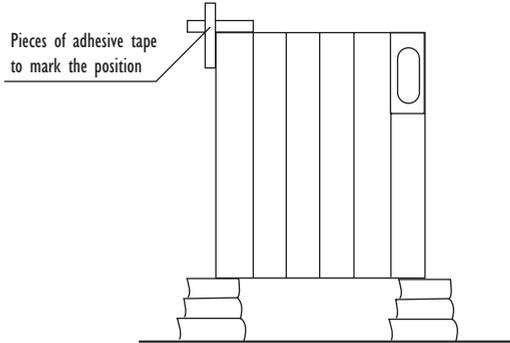

Figure 2
- Once you have decided the location for your radiator, mark the position. To do this, stick two pieces of adhesive tape to the wall as shown in figure 2. You can now remove the appliance.